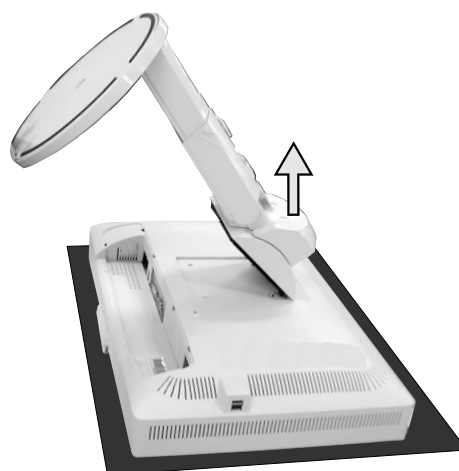

Figure S.4
5. Retirez le support (**Figure S.4**).